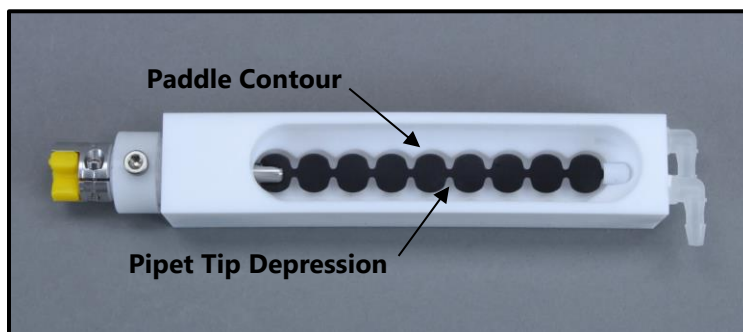

Figure 5. Close-up view of a Bubble Paddle Reservoir
- 2) Position the pipet tips to be aligned with the notches in the bubble paddles and the depressions in the sculpted bottom of the VP 758 series Bubble Paddle Reservoir (see Figure 5).